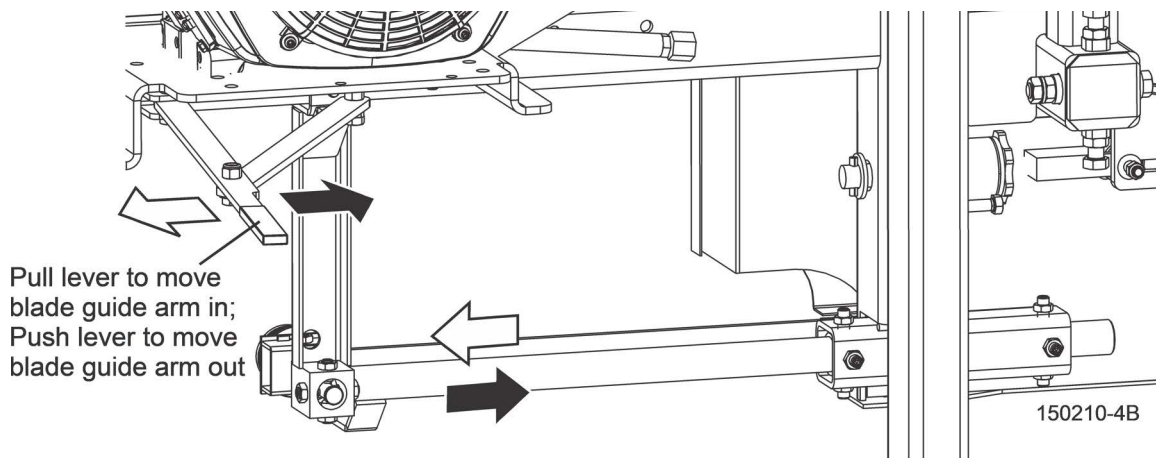

FIG. 5-5
- Pull the lever toward you to move the arm in; push the lever away from you to move the arm out. See FIG. 5-5.